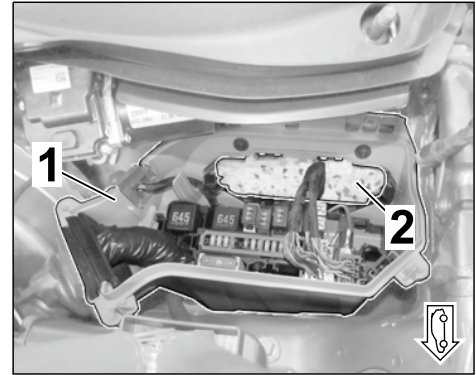

Figure 10
1.4.4 Remove cover on fuse box (E-box) in cowl panel (⇒ *Figure 10* , ⇒ *Workshop Manual '978409 Loosening and securing fuse box'*)